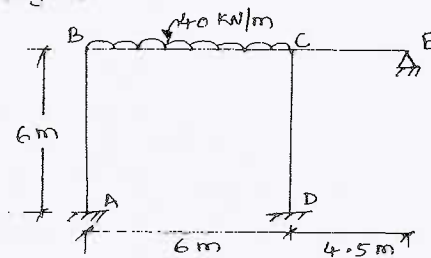

Fig.Q7
- 7 Using stiffness matrix method, analyse the frame shown in Fig.Q7. Draw bending moment diagram. Take EI constant throughout. (20 Marks)